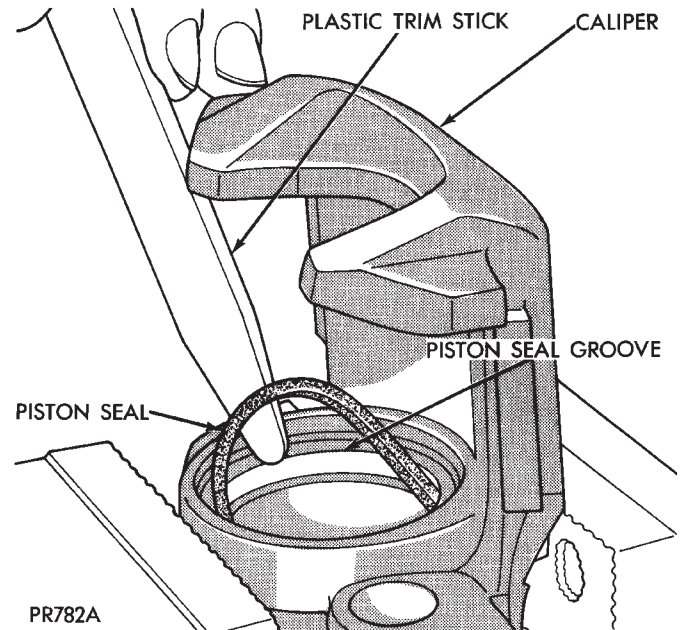

Fig. 183 Removing Piston Seal
(3) Using a soft tool such as a plastic trim stick, work the piston seal out of its groove in caliper piston bore (Fig. 183). Discard the old seal.
(4) Clean the piston bore and drilled passage ways using alcohol or a suitable solvent. Wipe it dry using only a lint-free cloth.